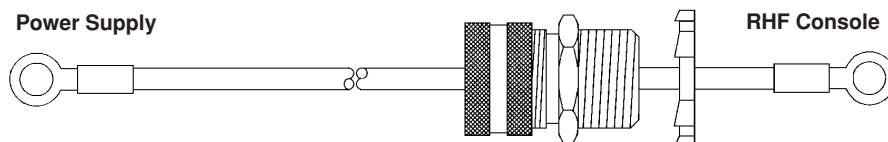

Figure 3-10 Pilot Arc Lead (+)
① Pilot Arc Lead (+) (Figure 3-10)